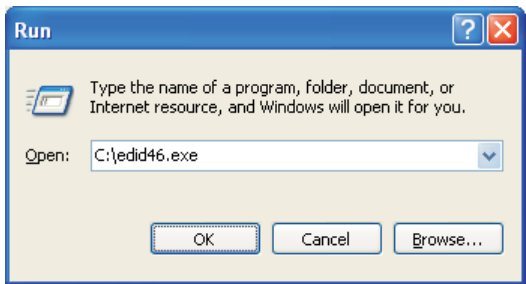

Fig. 6
3. At the submenu, type the letter of your computer's hard disk drive followed by :EDID46 (for example, C:\EDID46, as shown in Fig. 6).